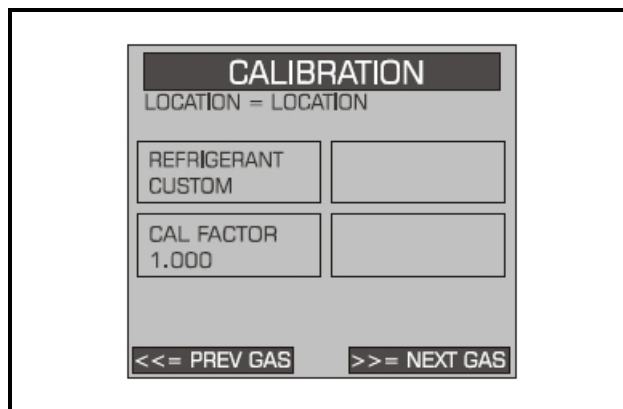

Figure 7-13 - Custom Gas Screen
2. Ensure the **GAS TYPE** setting is selected (see **Figure 7-13**) and press **ENTER**.